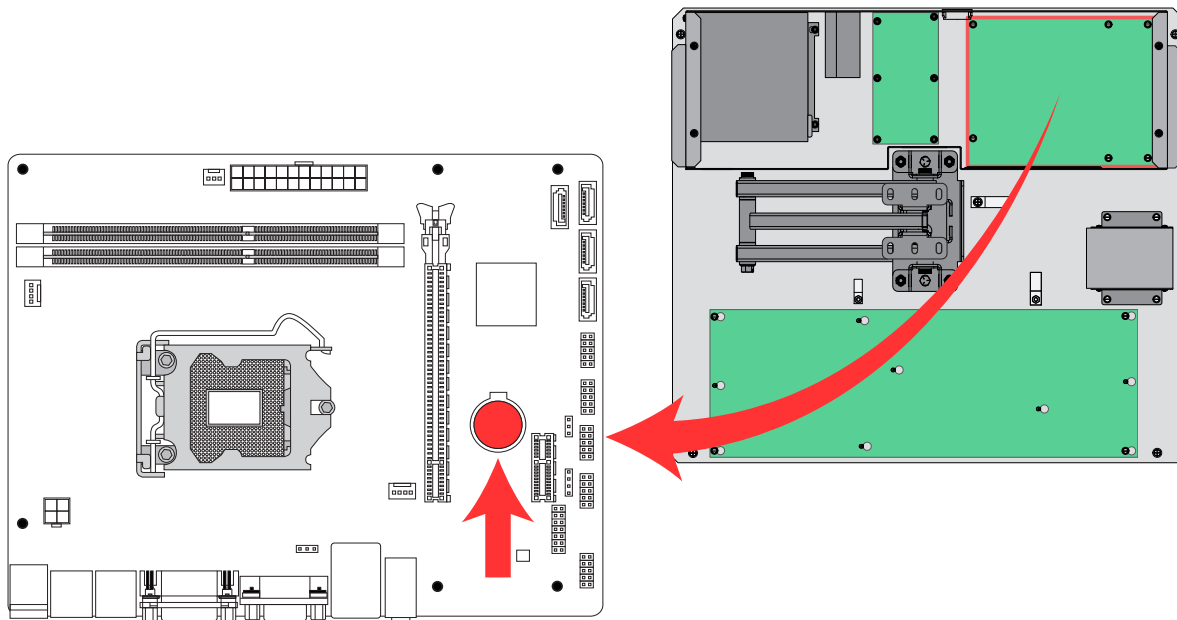

Figure E13. CPU board and battery locations.
- 3) Remove the lid of the Backbox PCBs EMI Shield Enclosure by removing the four HWH Phillips machine screws (circled in red, figure E13); set the lid and the four screws aside.
- 4) Locate the CPU board (upper right corner of the EMI shield enclosure), then the shiny, CR2032 coin cell battery & holder mounted on its surface (red arrow and circle, figure E13). Note the orientation of the battery in its holder (with the battery label/imprint facing *outward*).